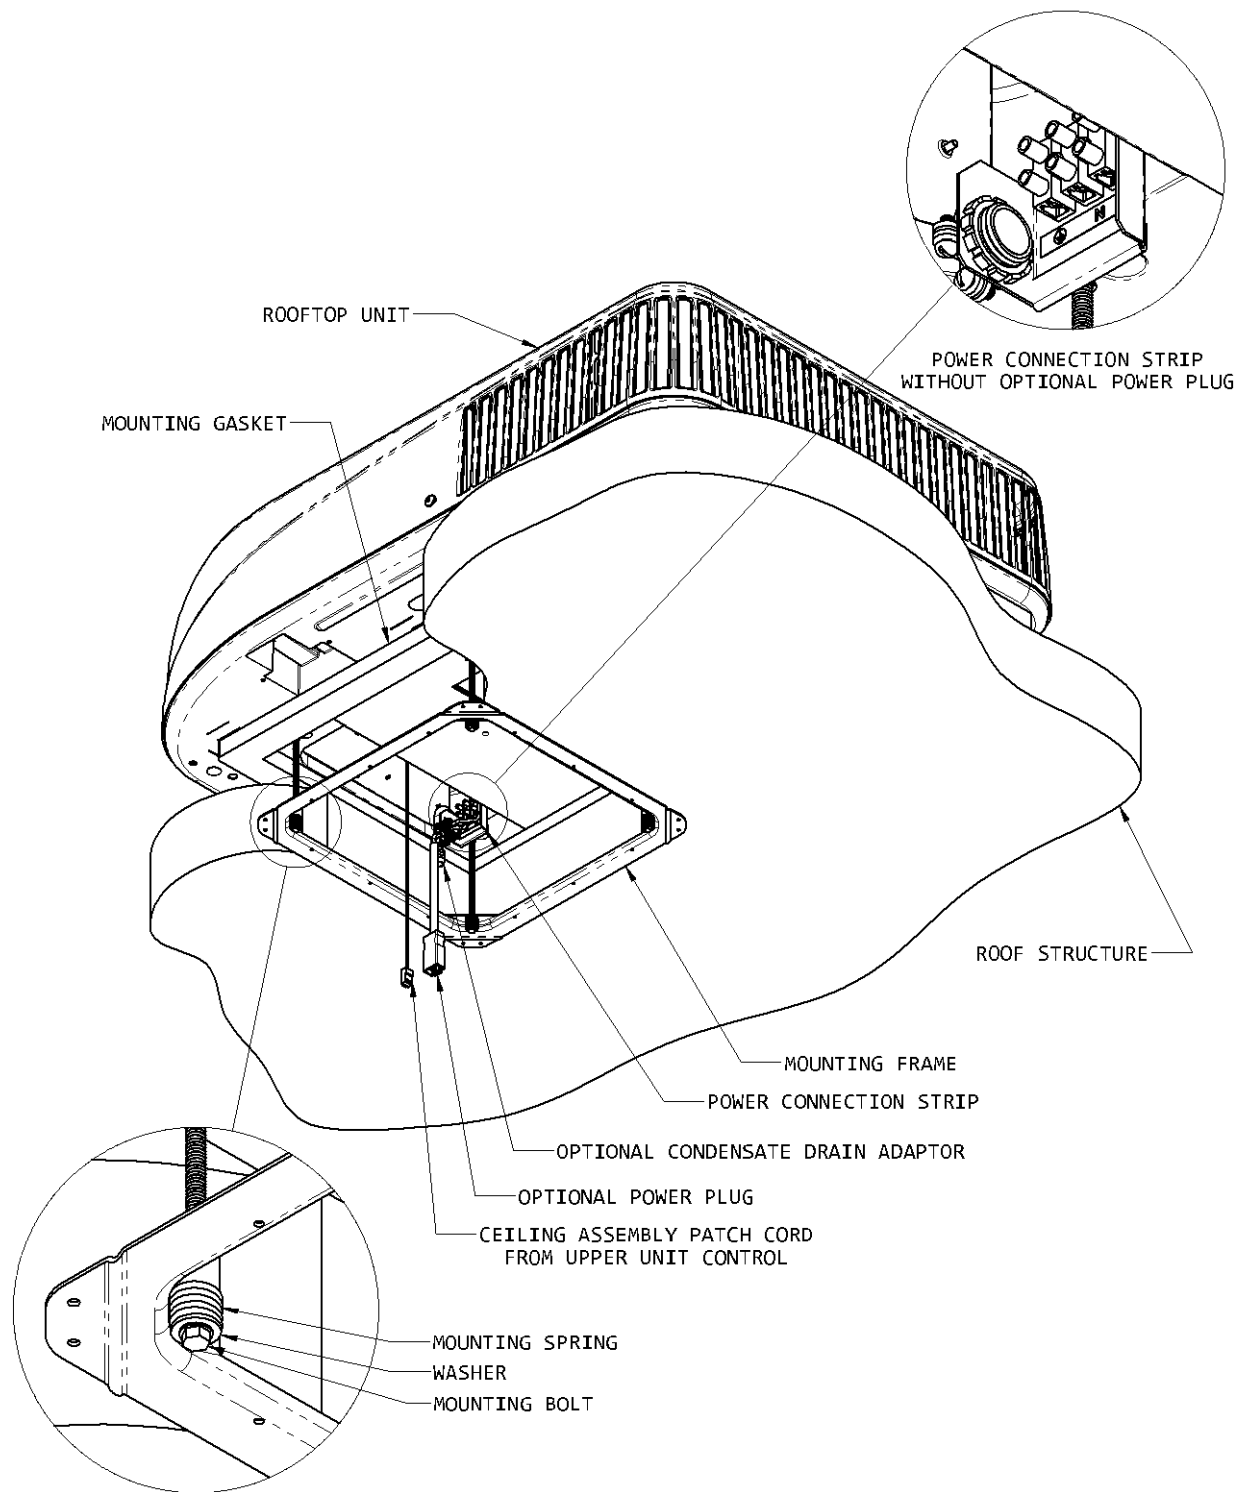

FIGURE 4
See Figure 4
- C. Proper tension has been achieved for each bolt when the spring coils have just come together (See Figure 4). The upper unit has now been properly installed with optimum gasket compression.
- D. If the heat pump is equipped with an optional evaporator condensate pump, a 13 mm I.D. hose must be provided that runs from the 357 mm square opening, through the vehicle ceiling and down the side wall to allow water to drain under the vehicle. The hose must not be allowed to kink shut while making a bend. Connect the top end of the drain hose to the barbed fitting shown in Figure 4.